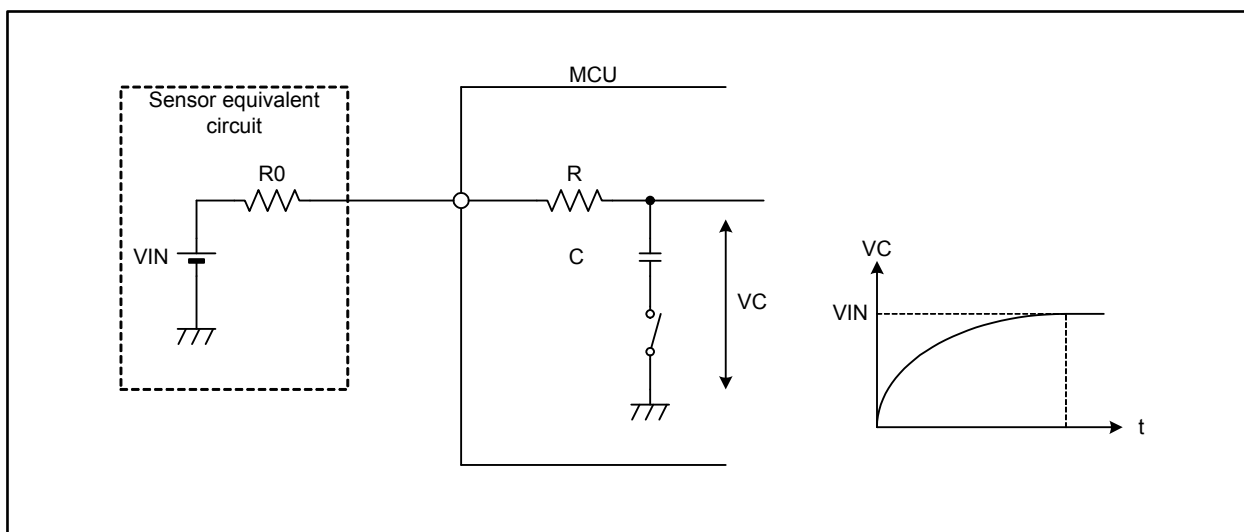

Figure 19.10 Analog Input Pin and External Sensor Equivalent Circuitry
Figure 19.10 shows an analog input pin and external sensor equivalent circuit.
To perform A/D conversion correctly, the internal capacitor (C) charging, shown in Figure 19.10, should be completed within the specified period. This period, called the sampling time, is 2  $\phi\text{AD}$  cycles for conversion without the sample and hold function and 3  $\phi\text{AD}$  cycles for conversion with this function.